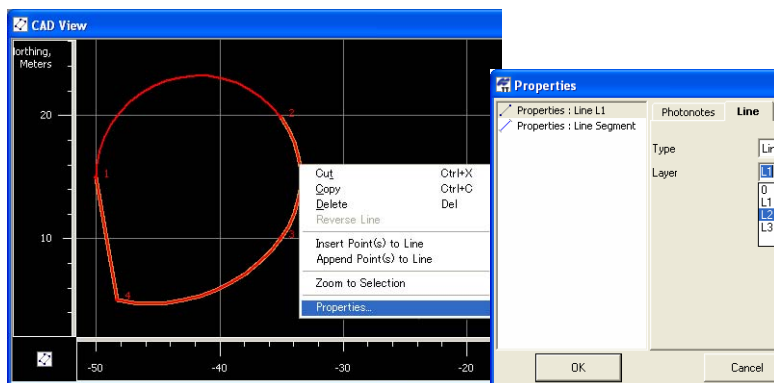

Figure 5-79. Select a Different Layer from the Drop-down List
- Right-click on the line (or selected lines) in the CAD View and select the Properties from pop-up menu. Select a different layer from the drop-down list in the Properties window (Figure 5-79).